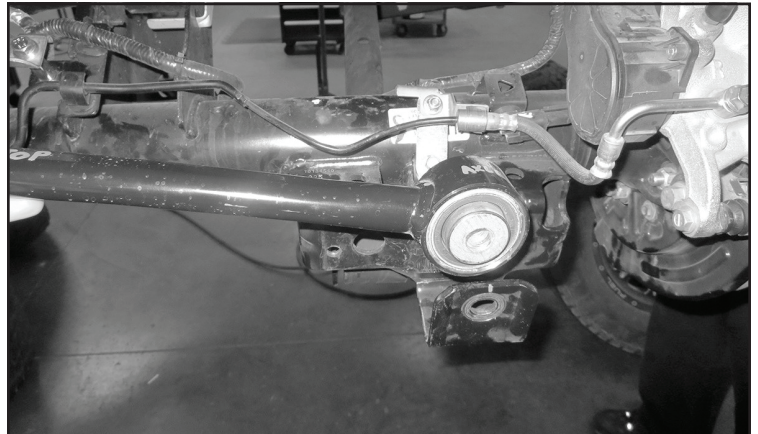

FIGURE 64 - STEP 54
54. Supporting the rear axle. Disconnect the rear track bar from the axle side bracket. Save hardware. **SEE FIGURE 64**